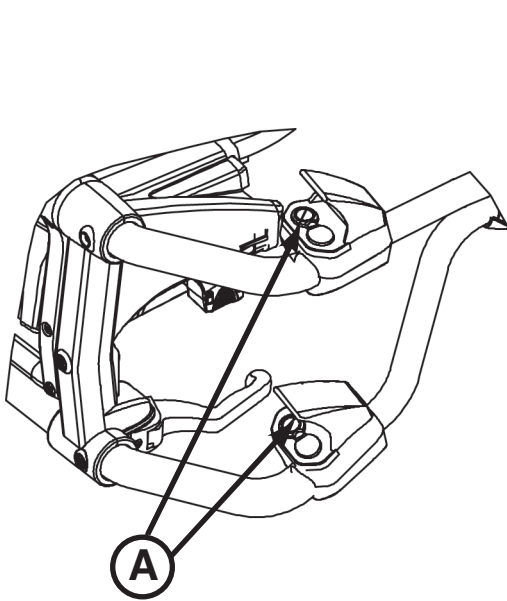

Figure 22.1: Retract Switches
To check the battery power level, depress **lightly** on the retract (–) switch (A) to activate the power indicator LED (B) as shown in Figures 22.1 and 22.2.